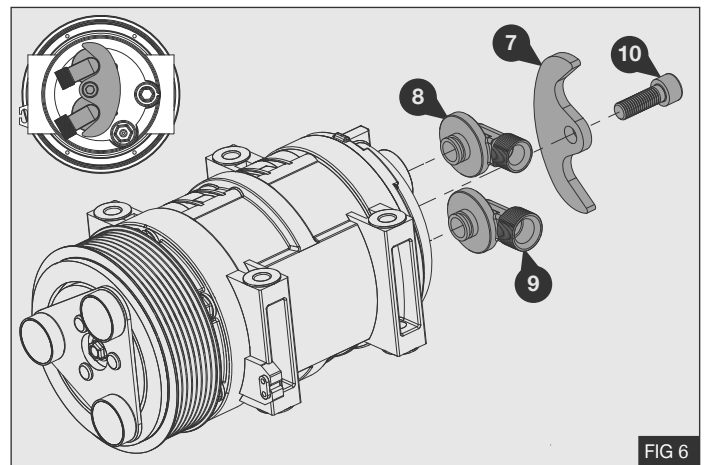

FIG 6
1. Fit the supplied compressor fittings (8) and (9) as shown opposite, secure using clamp (7) and M10 x 30 bolt (10) - Fig.6
3. Torque bolt (10) to 45Nm / 33lb.ft using a calibrated torque wrench - Fig.6
**NB:** Align supplied suction and discharge fittings as shown in - Fig.6